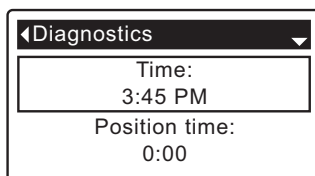

FIG. 91
8. Press the SELECT (O) button to display the Diagnostics screen (See Figure 91).